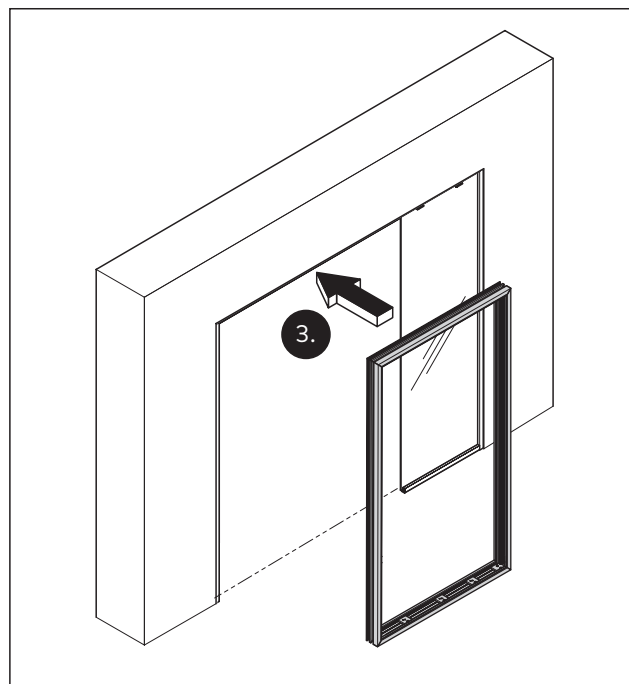

Fig. 21 Place the acoustic element in the opening
- 3. Place the acoustic element frame in the opening (Fig. 21).